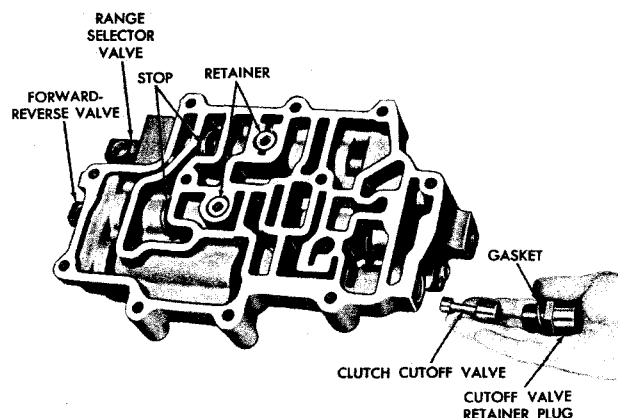

Fig. 6-7. Removing (or installing) clutch cutoff valve components—later model
(1) Remove the cutoff valve retainer plug, gasket, and cutoff valve (fig. 6-7).
(3) Install the clutch cutoff valve, small diameter first, into the valve body. Install the assembled valve plug, seal, cup retainer plug, and gasket into the valve body (fig. 6-7).